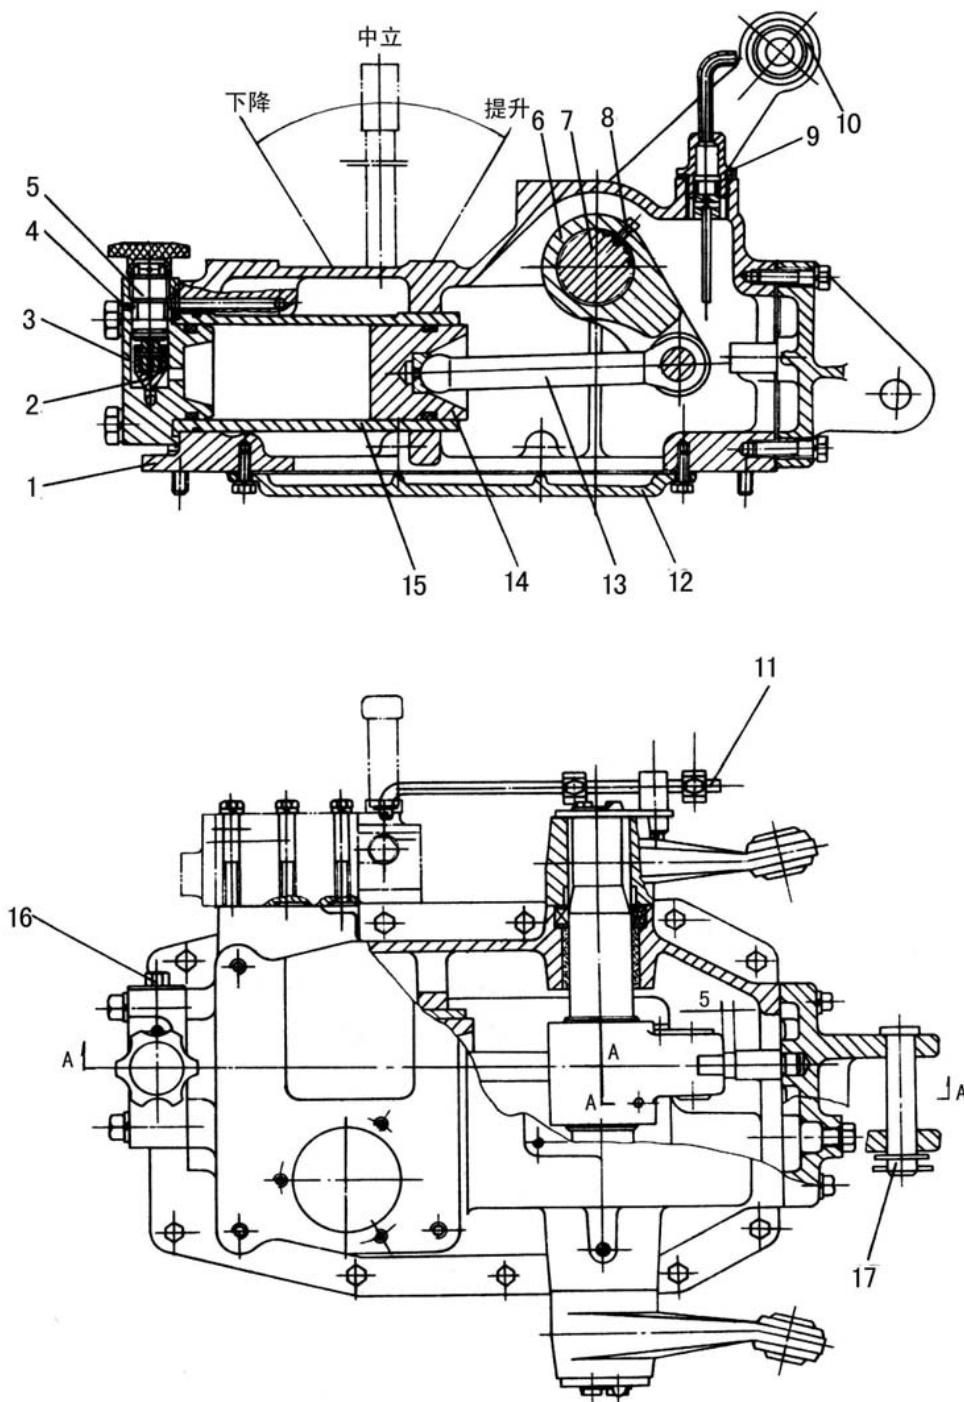

Fig.4-18 Lifter
During adjustment, the lowering speed of the implement can be adjusted through rotating the adjusting valve bolt (5) (see Fig.4-18). When the lowering speed is suitably adjusted, use check screw (4) to limit the moving range of adjusting valve bolt.